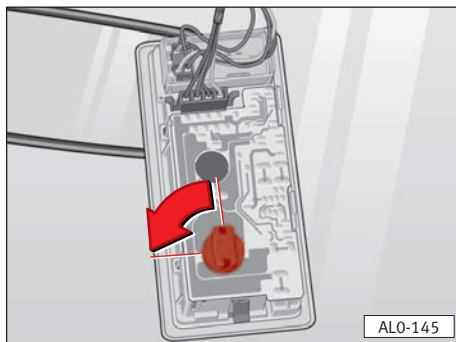

Fig. 191
- Turn bulb holder on back of light in direction of arrow and remove ⇒ fig. 191.